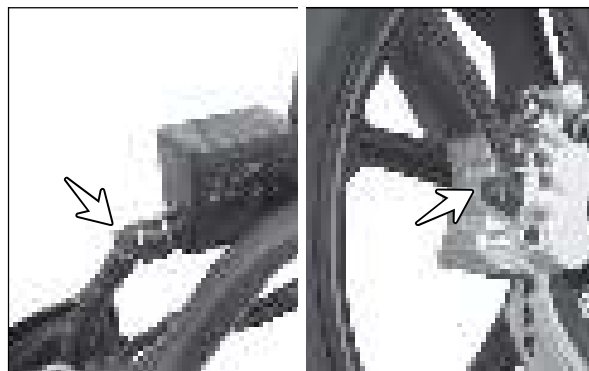

Fig. 6.22
- Remove the banjo bolt (2 Nos.) along with gaskets (2 Nos. on each side) from both the ends of the hose complete brake. (Fig. 6.22)